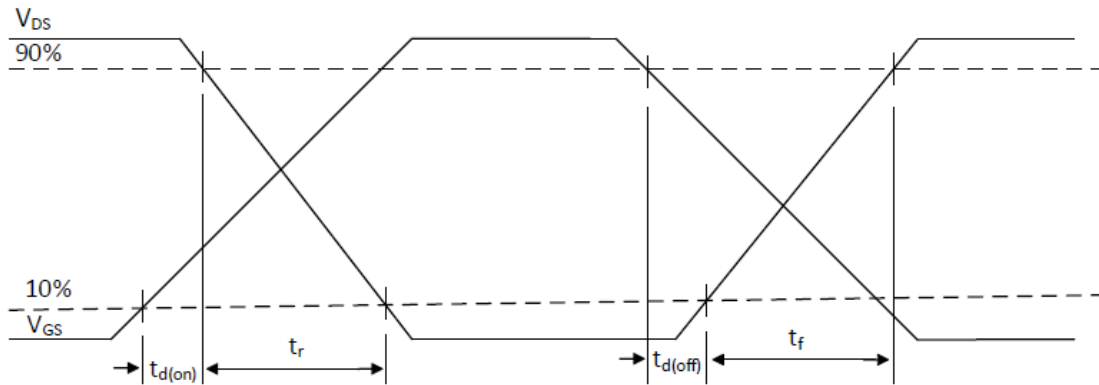

Figure 17: Switching Time Waveforms
- (8) See Figure 17 for switching time definition waveforms.
- (9)  $L_P$  = parasitic inductance.